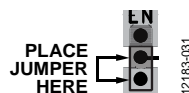

Figure 3. Disabled Jumper Position
- Use a jumper to connect the bottom two pins of the EN test bus. This jumper connects EN to GND and disables the ADP1972 (see Figure 3).